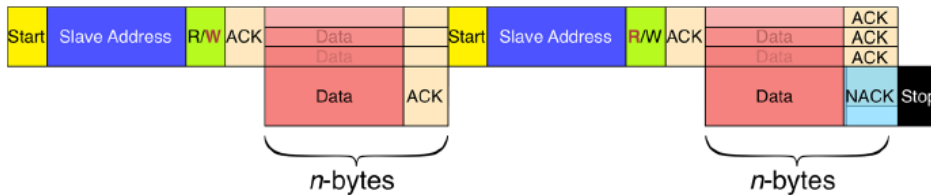

Figure 5: The structure of a *combined transaction*
All transactions begin with a START (S) and are terminated by a STOP (P) (see Figure 5). A HIGH to LOW transition on the SDA line while SCL is HIGH defines a START condition. A LOW to HIGH transition on the SDA line while SCL is HIGH defines a STOP condition.
To support this common communication schema, the I²C protocol defines the *combined transactions*, where the direction of data flow is inverted (usually *from slave to master*, or vice versa) after a number of bytes have been transmitted. Figure 5 schematizes this way to communicate with slave devices. The master starts sending the slave address in write mode (note the **W** in red-bold in Figure 5) and then sends the addresses of registers we want to read. Then a new *START* condition is sent, without terminating the transaction: this additional *START* condition is also called *repeated START condition* (or *RESTART*). The master sends again the slave address but this time the transaction is started in read mode (note the **R** in bold in Figure 5). The slave now transmits the content of wanted registers, and the master acknowledges every byte sent. The master ends the transaction by issuing a *NACK* (this is really important, as we will see next) and a *STOP* condition.